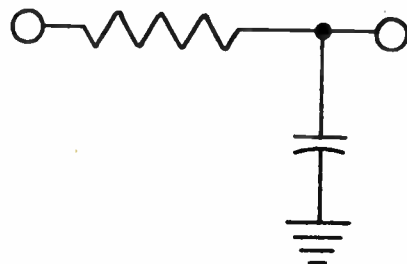

Fig. 4
- You should have drawn something similar to Fig. 4. High frequencies are "bypassed" to ground. Therefore this is a low-pass filter.